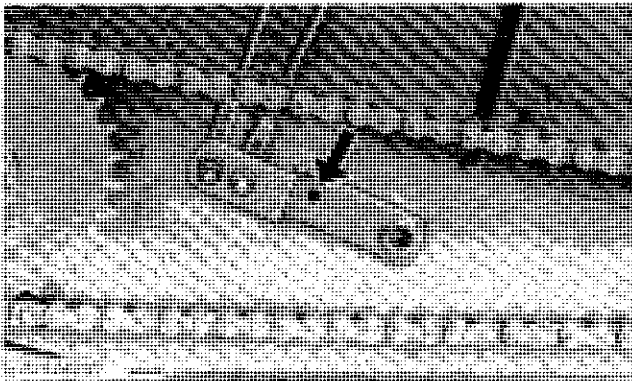

Fig. 120-Securing Arm
2. Align hole in lower actuator arm with matching hole in bulkhead (Fig. 120). Secure arm in position with pin.